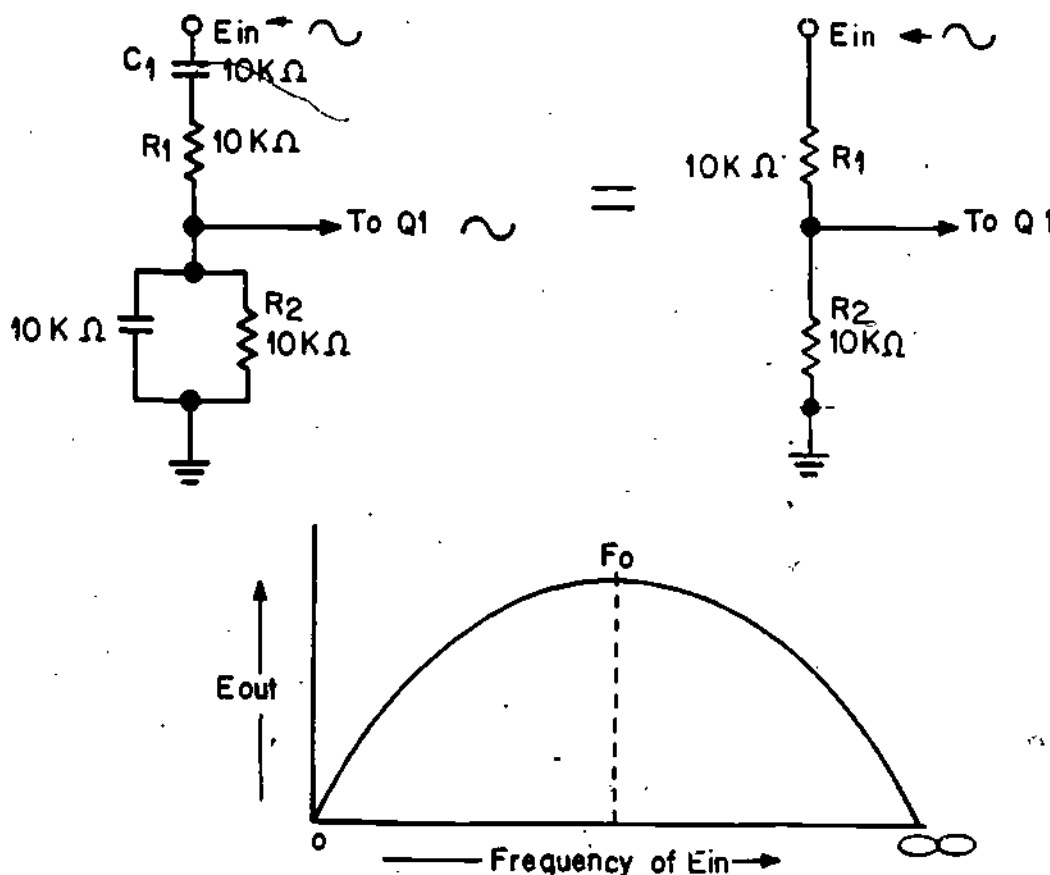

Figure 9
10. The schematic for the frequency determining portion of the bridge circuit, the equivalent RC circuit, and a diagram showing the relationship of voltage output and oscillator frequency at F_0 is shown in Figure 9.
Study the diagram on the bottom of Figure 9 in order to answer the following question.